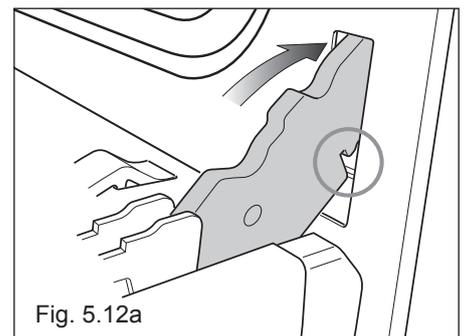

Fig. 5.12a
- Insert the hinge tongues into the slots, making sure that the groove drops into place as shown in the fig. 5.12a.